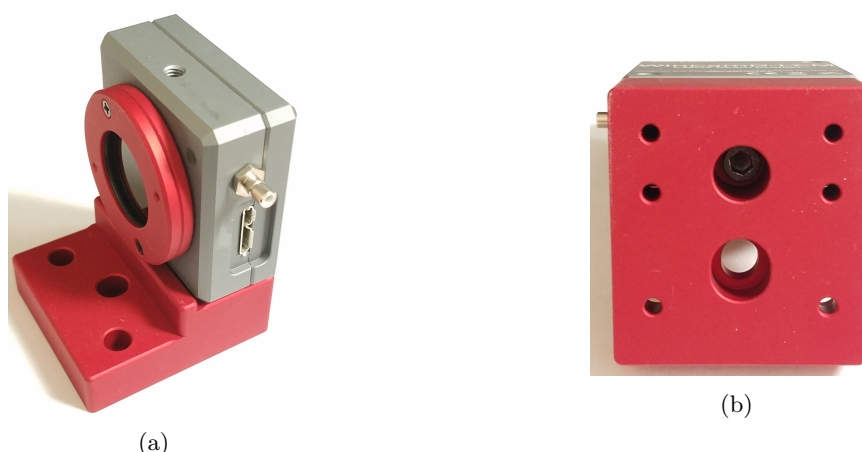

Figure 3: (a) The WinCamD-LCM is placed on the mounting block as shown. (b) A #8-32 screw fastens the WinCamD-LCM to the mounting block.
2. Attach the WinCamD-LCM camera to the red M2DU mounting block using a #8-32 screw through the bottom of the mount to the bottom of the camera as shown in Figure 3.